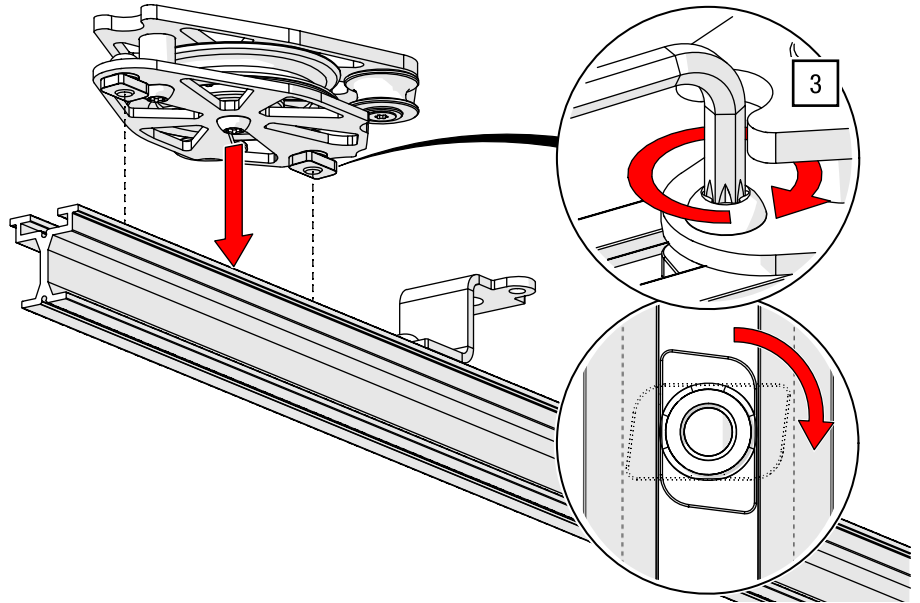

Fig. 75: Side cord operation – Fitting the return pulley
3. Position the pre-assembled return pulley for side cord operation at one end of the track and tighten the screws with the slot nuts positioned in the track profile using a TORX®-key T40 and 27 Nm (see Fig. 75).